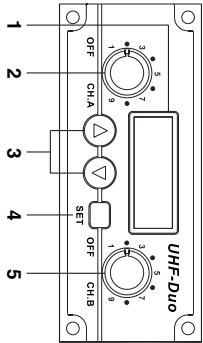

Fig. 2: Receiver Controls
2. Receiver module (see Fig. 2 detail)